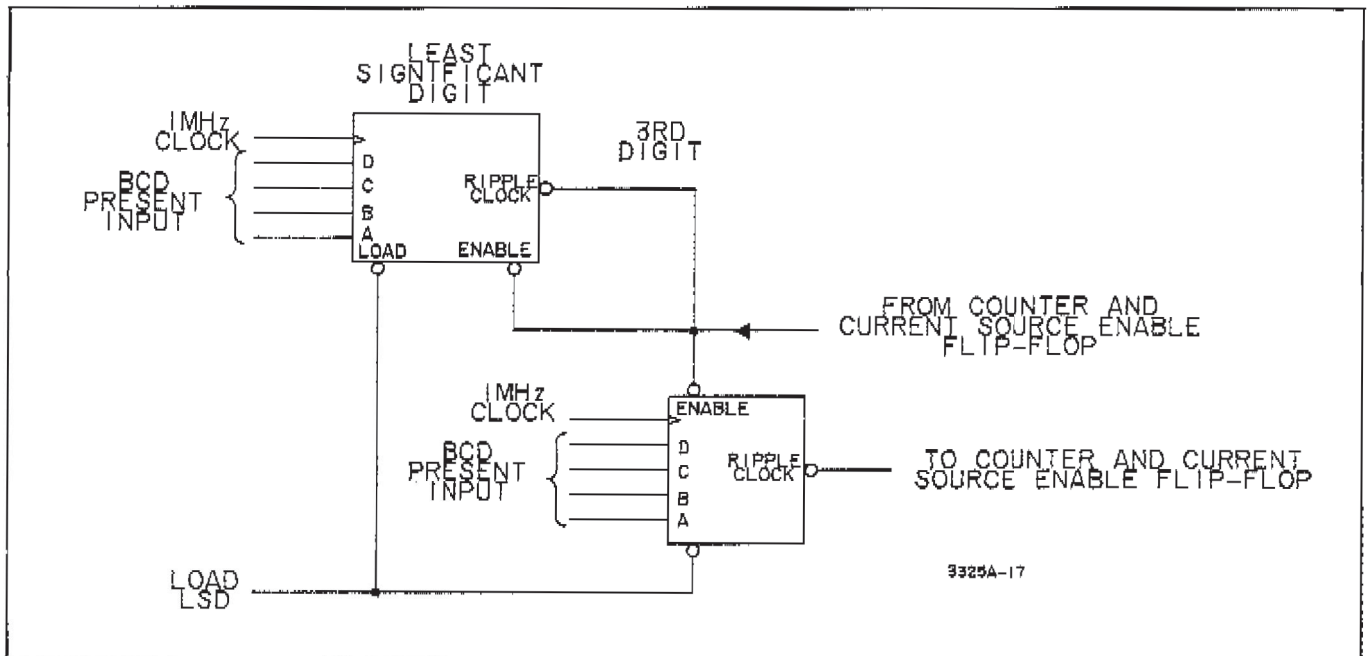
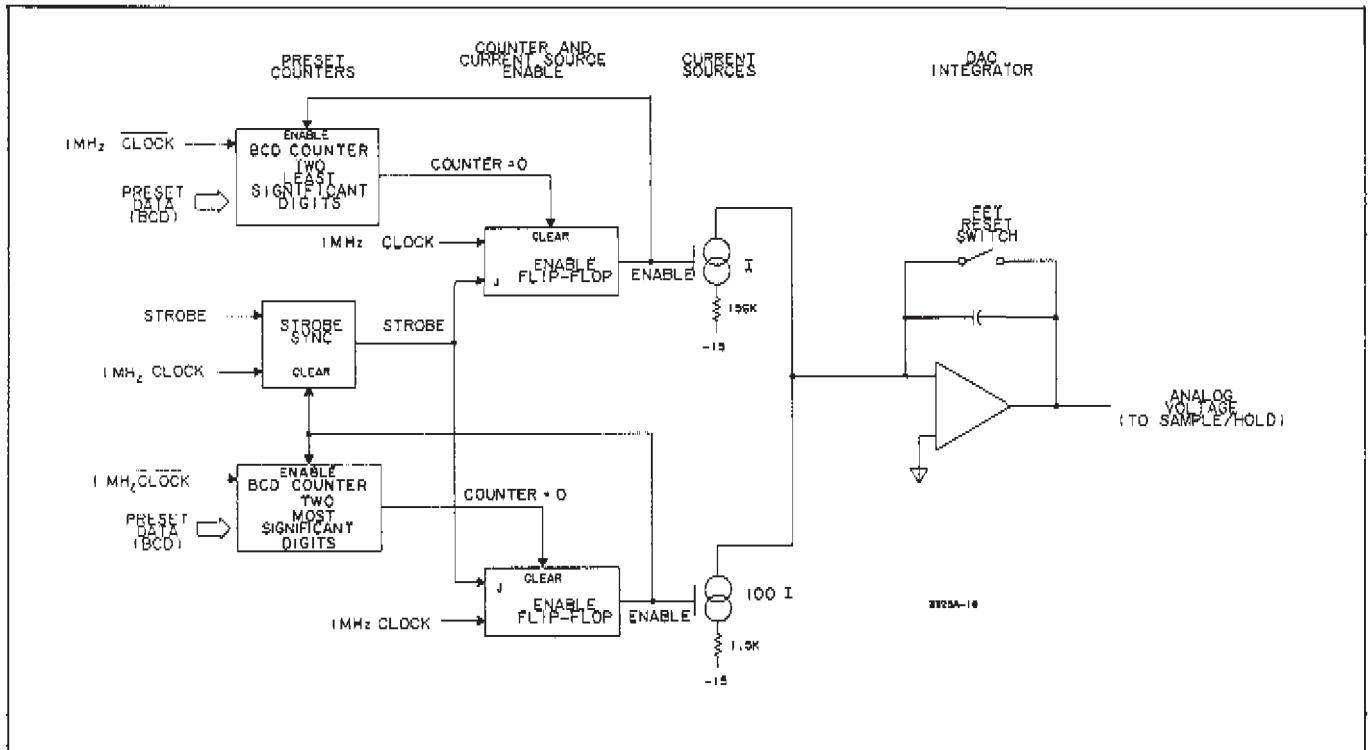

Figure 8-17. Preset Counters.
Figure 8-18. D/A Converter.
**8-55. Preset Counters.** Each of the four Preset Counters is a BCD counter that can be pre-loaded with a 4-digit binary number and then enabled to count from that point. In this application, they are set to count down. The counters are connected in two pairs, as illustrated by the least significant pair in Figure 8-17. Both counters are loaded at the same time, then the Least Significant Digit (LSD) Counter is enabled by the Counter and Current Source Enable Flip-Flop; and at the same time, the LSD Current Source is enabled to supply current to the DAC Integrator (see Figure 8-18). When the LSD Counter reaches zero, its Ripple Clock output enables the 3rd Digit Counter to count one clock pulse. If the preset number in the 3rd Digit Counter was greater than one, the LSD Counter continues to count, supplying an enable pulse to the 3rd Digit Counter each time it reaches zero. When the 3rd Digit Counter reaches zero, its Ripple Clock output changes the state of the Counter and Current Source flip-flop, disabling the LSD Counter and the Current Source.
**8-56. 4-Digit D/A Conversion.** A simplified diagram of the D/A Converter is shown in Figure 8-18. The D/A Converter (DAC) Integrator output voltage is proportional to the four digits of BCD information that is loaded into the Preset Counters. The two current sources are enabled to supply constant current to the DAC Integrator for the length of time required for the Preset Counters to count down from the preset number to zero. The current resulting from the two most significant digits is proportionally 100 times that from the two least significant digits. For example, if the 4-digit preset number were 5555, the enable time would be the same for both current sources, but the current ratio would be 100 to 1.